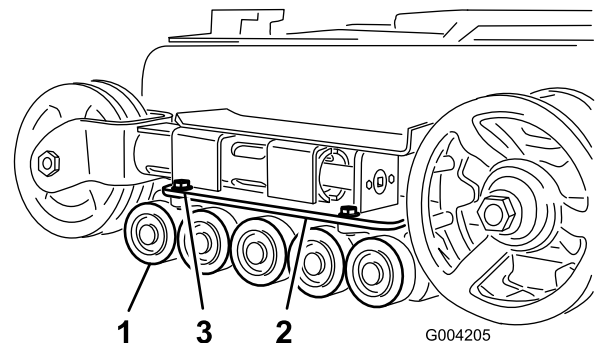

Figure 47
2. Remove the 4 bolts securing each lower track guide which contains the road wheels, and remove them (Figure 47).